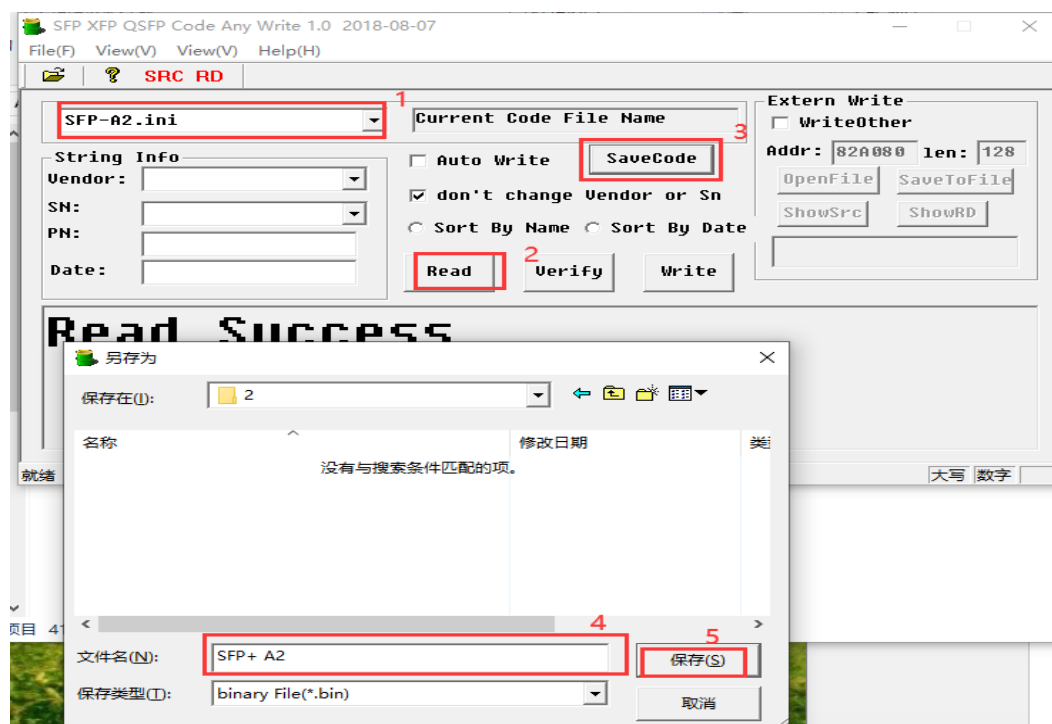

Figure 9
2.6 Select the configuration file corresponding to the SFP optical module. For SFP/SFP+/SFP28/SFP56 series optical modules, you can use the "SFP-A2" configuration file to read the code (as shown in Figure 9)
2.7 Click the "Read" button (as shown in Figure 9)
2.8 Click the "Save Code" button (as shown in Figure 9)
2.9 Name the code (as shown in Figure 9)
2.10 Save the code to your computer (as shown in Figure 9)